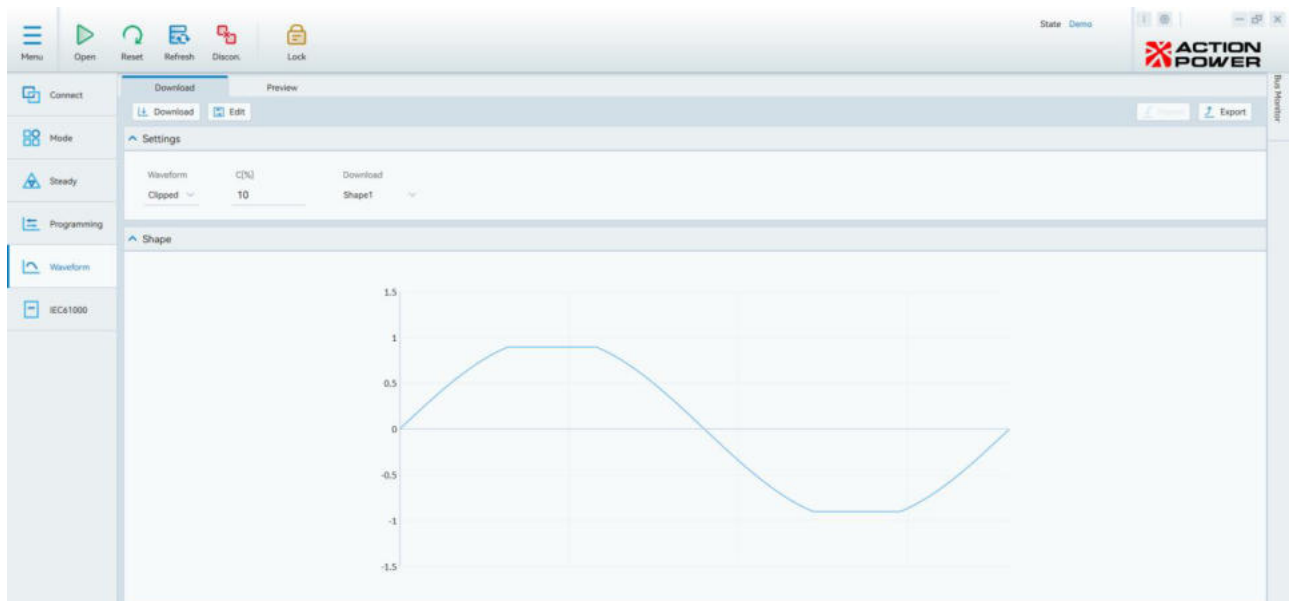

Figure 7.4.1.3 Waveform Download Completion
- Example: Downloading a clipped waveform to shape1 in the device, as shown in Figure 7.4.1.3